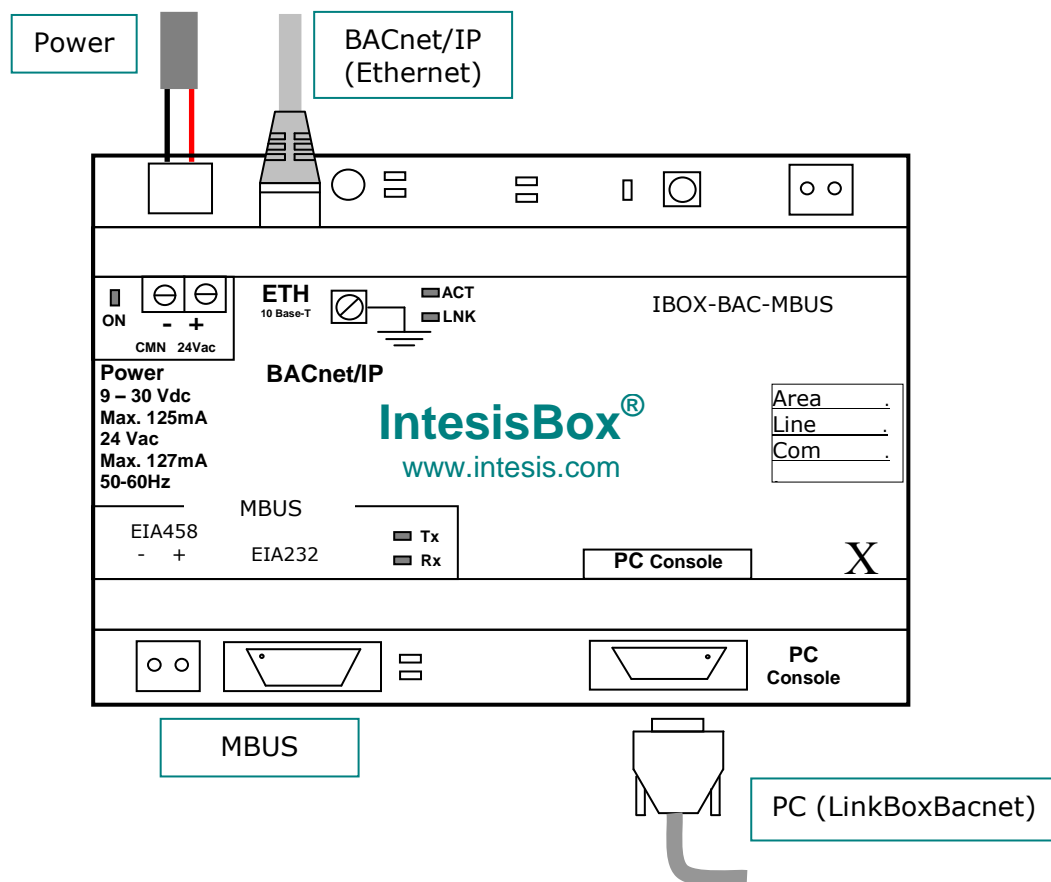

Figure 4.1 Device connection diagram
The first step to perform is to power up the device. To do so a power supply working with any of the voltage range allowed is needed (check section 6). Once connected the ON led (Figure 4.1) will turn on.
Connect the communication cable coming from the M-Bus network to the port marked as M-Bus of IntesisBox (Figure 4.1). Two methods to connect to the M-Bus network can be used:
Connect the communication cable coming from the network hub or switch to the ETH port (Figure 4.1) of IntesisBox. The cable to be used depends on where the IntesisBox is being connected:
- Ethernet: Using the ETH port (Figure 4.1) of IntesisBox. How to check connectivity is explained in section 4.3.
- Serial cable: To connect the device to the PC the serial cable supplied should be plugged to the PC console port (Figure 4.1). The cable is a RS-232 straight cable and its pinout is at explained in Table 4.2.